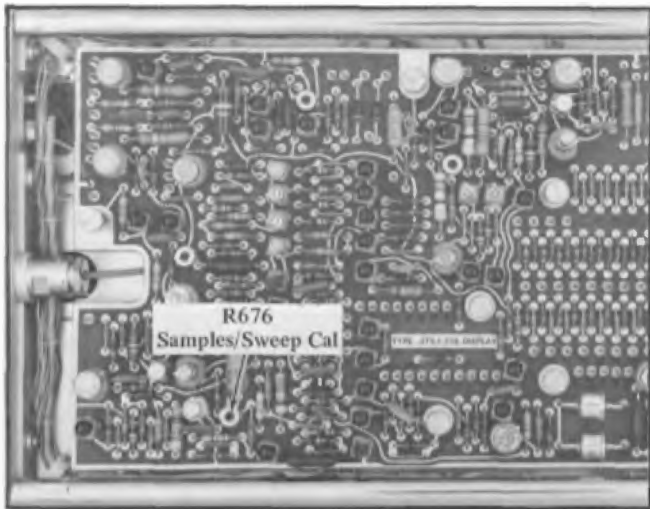

Fig. 5-14. Location of Dot Density adjustment, instrument left side.
c. Adjust R676, Samples/Sweep Cal, for a Digital Unit readout of 8.00 μ s. Location is shown in Fig. 5-14.